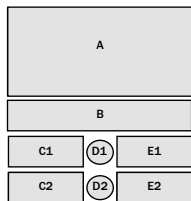

Figure 7: Display areas
- To install the PAC50, position the lower fixing guide on the mounting rail (see Figure 7 ①) and tilt the PAC50 up until it locks into place (see Figure 7 ② and ③).